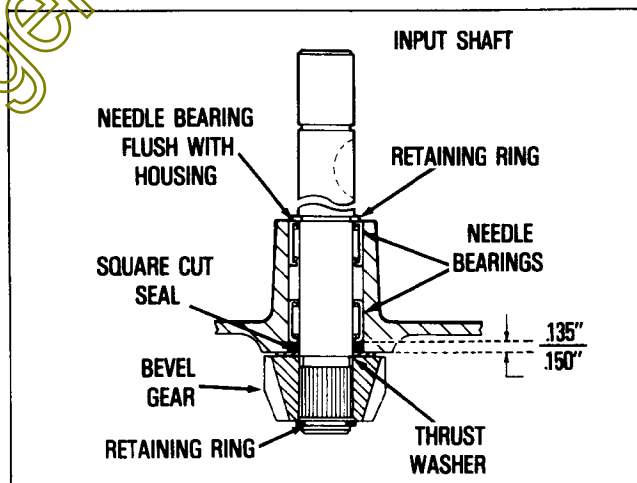

FIGURE 8
- Remove differential from case. Remove seals (2), bearings (2), and bushings (2).
- Remove retaining ring on bevel gear end from input shaft, remove bevel gear and pull shaft through case. (Figure 8). The square cut seal must be replaced, if removed.